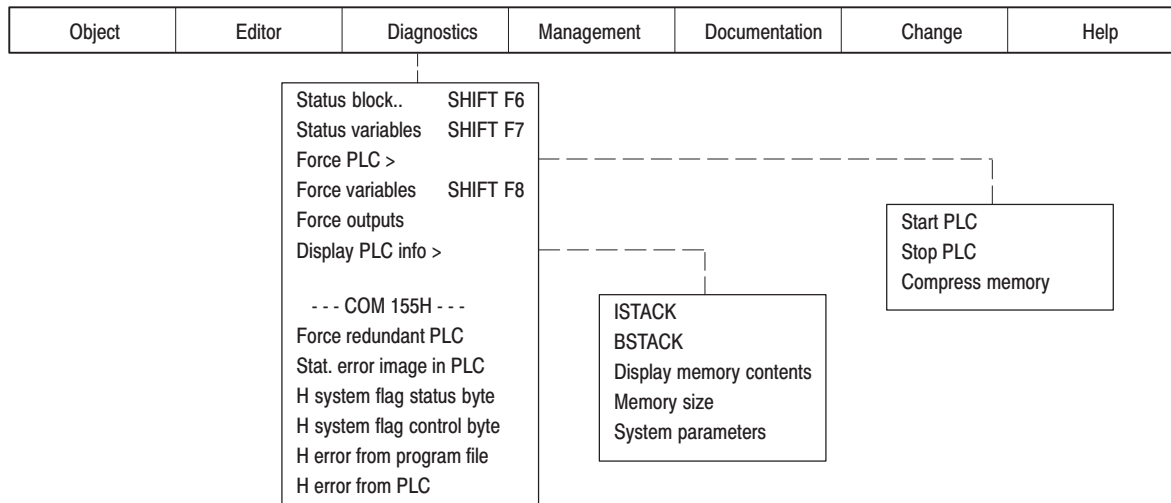

Figure 1-7 The COM 155H Diagnostics Menu
**The Diagnostics Menu** Figure 1-7 shows which COM 155H functions you can activate for diagnostics purposes on the S5-155H in addition to the STEP 5 test functions.